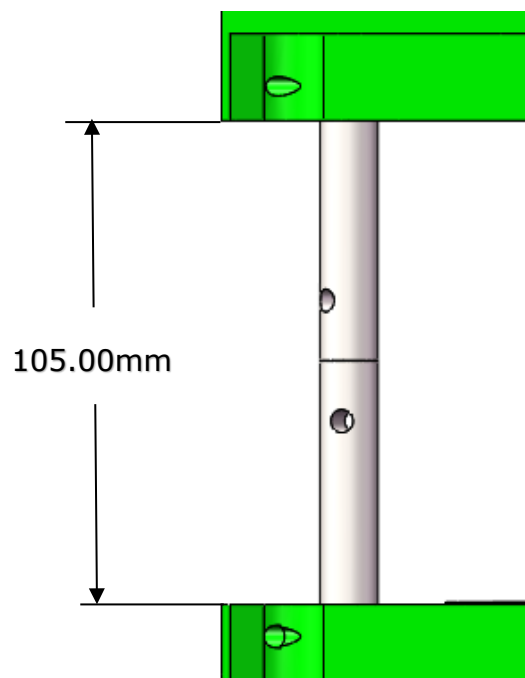

Figure 4.1-3. Start Position
5. Once all Teach Pins are concentric, teach the robot this point, referred to as the Start Position. The Start Position will be 105.00mm away from the proper docking position (See Figure 4.1-3).